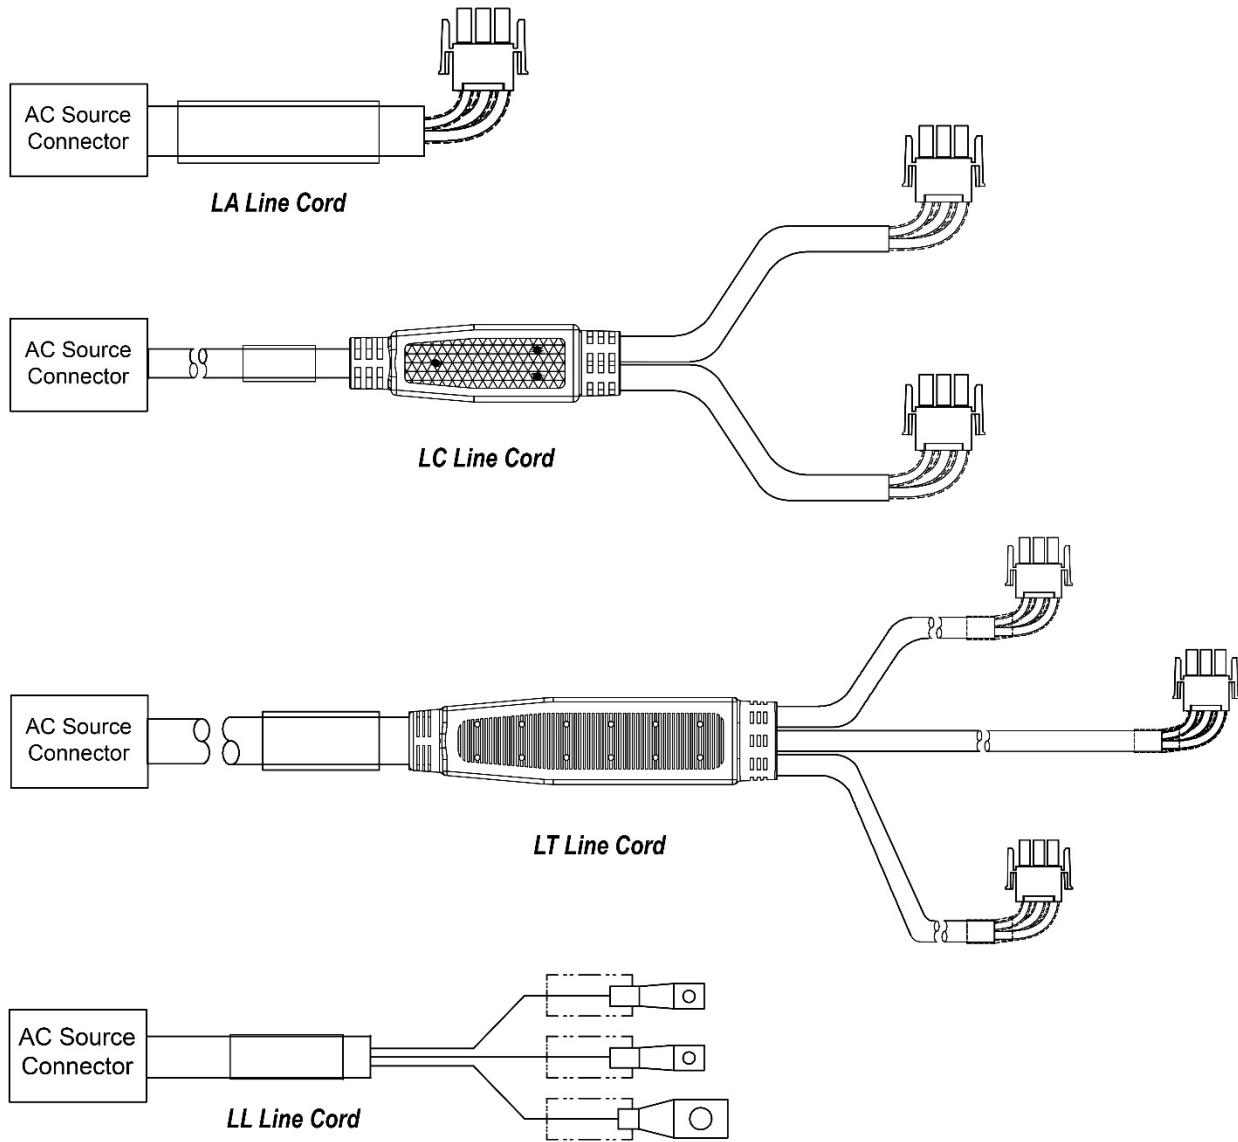

Figure 12 – Line Cords
- Systems with terminal blocks have knockouts for $\frac{3}{4}$ " conduit. 2RU systems have two (2) knockouts per side; 3RU systems have three (3) knockouts per side. If necessary, punch-out tools can be used to make knockouts for larger conduit.
- AMP connections are made with line cords, which are available for either individual (LA cords) or dual (LC cords) input; see Figure 12, page 25 (line cords must be ordered separately; see the *Unity Power Systems Product Guide*, Doc. No. EDM0000299847).
- Systems with terminal blocks have knockouts for $\frac{3}{4}$ " conduit. 2RU systems have four (4) knockouts per side; 3RU systems have six (6) knockouts per side. If necessary, punch-out tools can be used to make knockouts for larger conduit.
- AMP connections are made with line cords, which are available for either two rectifiers per input (LA cords), four rectifiers per input (LC cords), or six rectifiers per input (LT cords) see Figure 12, page 25 (line cords must be ordered separately; see the *Unity Power Systems Product Guide*, Doc. No. EDM0000299847).
Line cords are an option to make input connections on all systems, except for Flatpack2 systems with terminal block connections. Line cords are sold separately; see the *Unity Power Systems Product Guide*, Doc. No. EDM0000299847. Figure 12 illustrates these line cords.